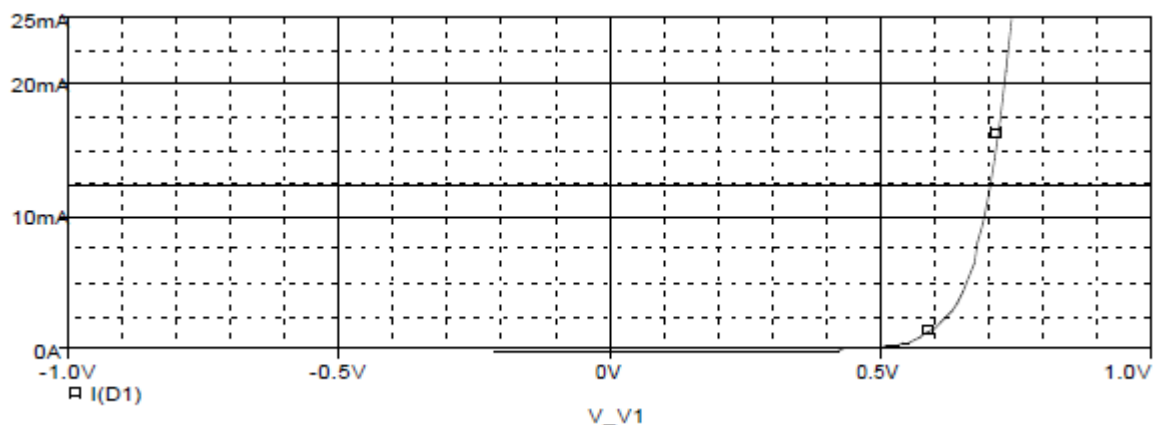

Figure 2.9
1. Run the simulation. A curve should appear on the display. Select dropdown “Plot” → Axis Settings → Y- axis. Choose the data range to be User Defined and set the range to go from 0 to 25 mA. Similarly, adjust the X-axis range to go from -1 to +1 volts. Your display should appear like the one shown in Figure 2.9.